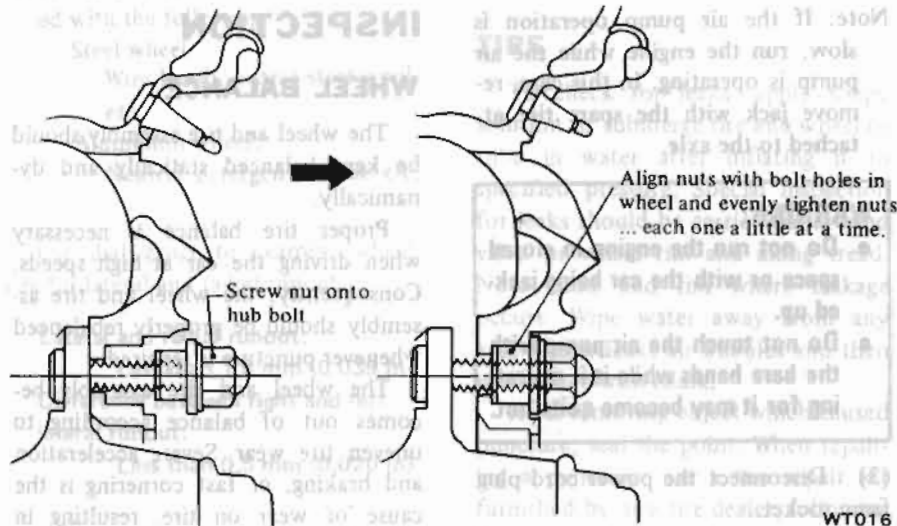

Fig. WT-3 Installing Aluminum Wheel
(1) Snugly tighten four nuts after wheel is positioned. See Fig. WT-3.
(2) Slightly pull wheel back to properly align nuts with bolt holes in wheel, and tighten nuts as much as possible with your fingers.
(3) Tighten four nuts evenly with a wheel wrench in criss-cross fashion.